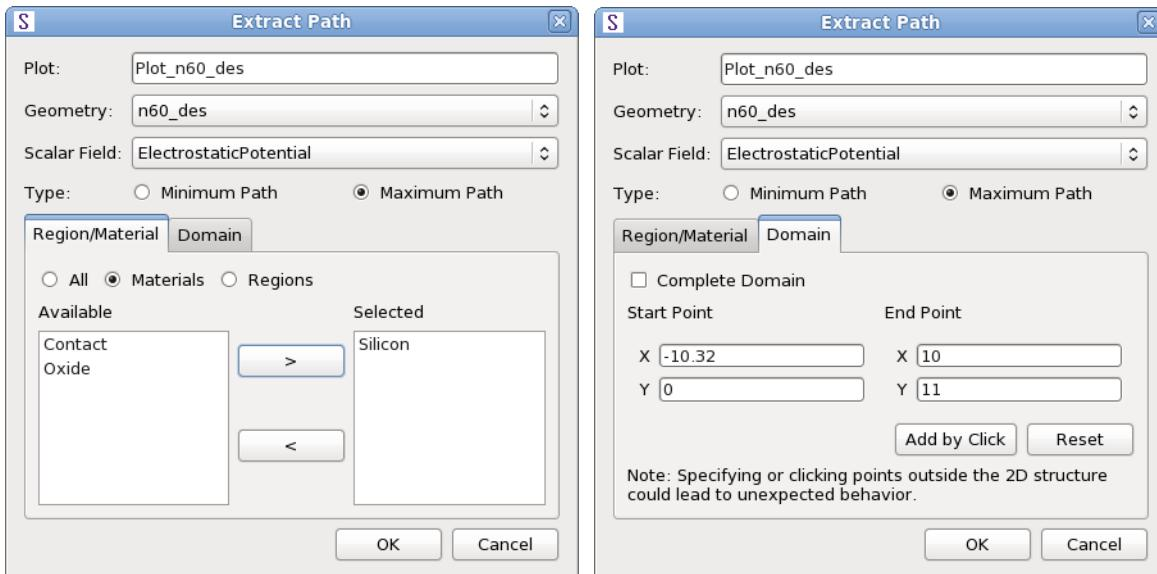

Figure 103 Extract Path dialog box showing (*left*) Region/Material tab and (*right*) Domain tab
You can use a Tcl command to extract the path (see extract\\_path on page 180) or the corresponding dialog box, which is available from **Tools > Extract Path** (see Figure 103).
6. Optionally, if you require greater precision, click the **Domain** tab to specify the start and end points of a smaller window of analysis (see Figure 103 on page 125 \(right\)).